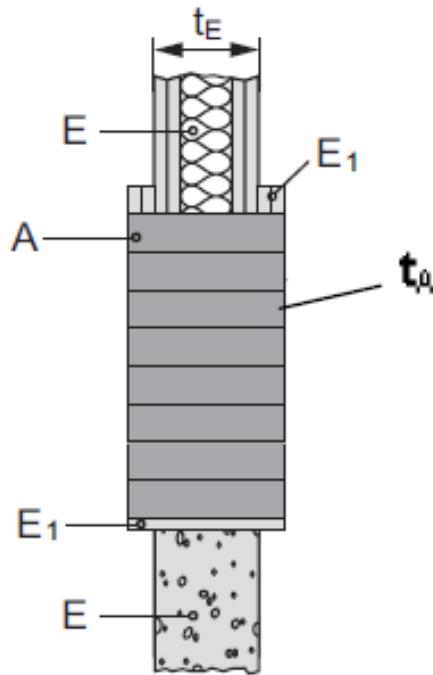
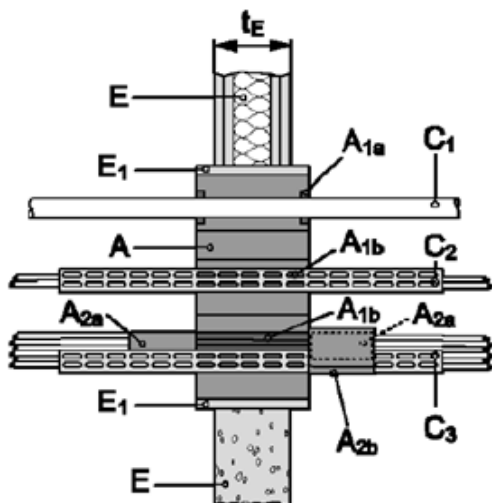

Figure 3 Blank wall seal, no service
Figure 4 Details of filler (A_{1a}), and (A_{1b}), 1 x putty (A_{2a}) and 1 x putty (A_{2b})
Flexible wall, Figure 3, top section (E)
The wall must have a minimum thickness of 100 mm (t_E) and comprise of steel studs lined on both faces with a minimum of 2 layers of at least 13 or 16 mm thick fire grade plasterboard and be tested to achieve an FRL of -/120/120 or 120/120/120. In addition the plasterboard wall construction shall include either 50 mm thick mineral wool with density of 100kg/m³ mineral wool cavity insulation as shown in figure 3 or the aperture of the penetration in the wall shall be lined with plasterboard to the same specification as required on each side of the wall figure 4.
Rigid wall, Figure 3, bottom section (E)
Blank wall seal, no services, Figure 3
Table 8 Schedule of components for Figure 3 and Figure 4